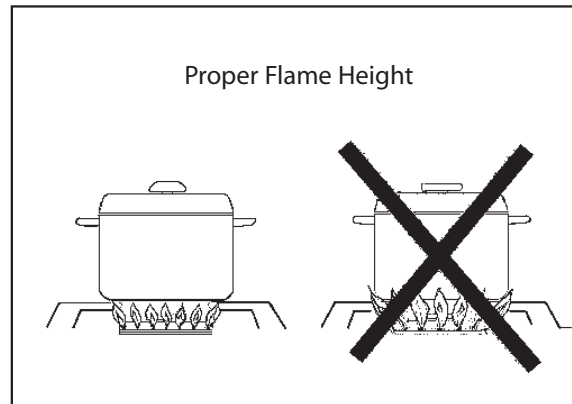

Fig. 4
- For safety reasons the flame must never extend beyond the bottom of the cooking utensil. Never allow flames to curl up the side of the pan (see Fig. 4).